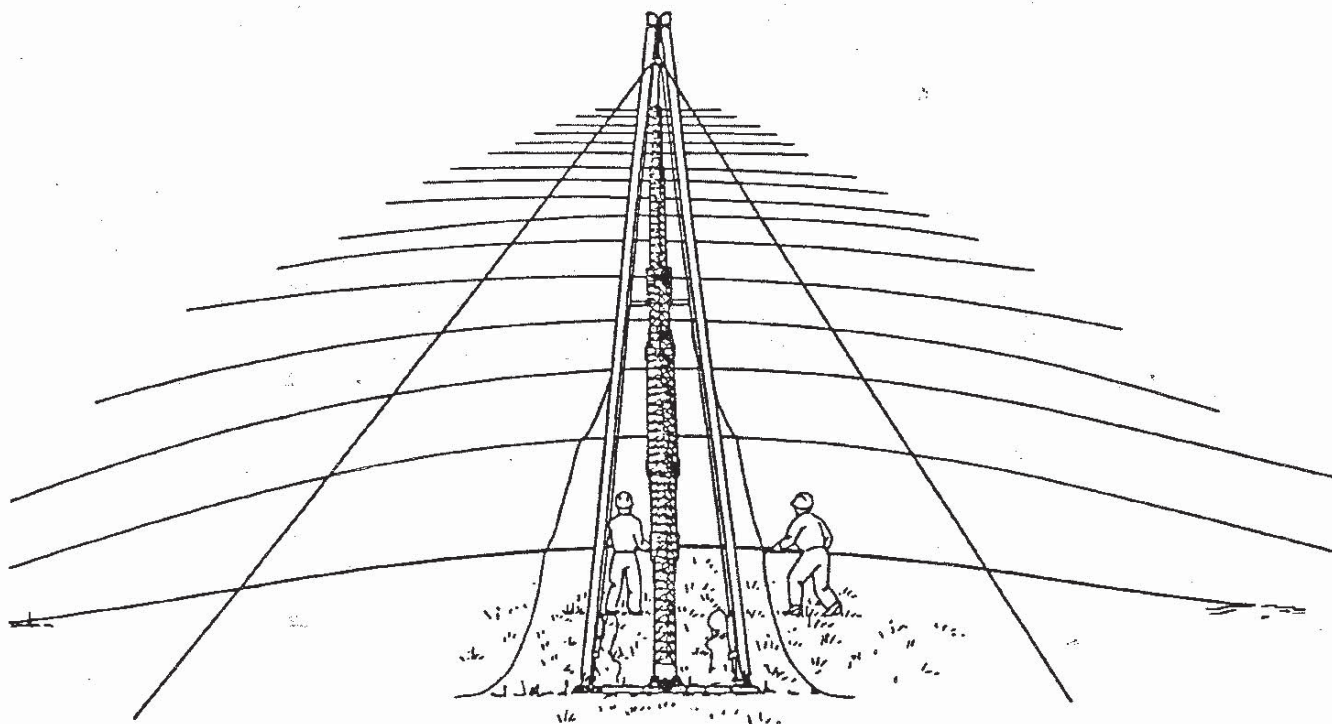

Figure 2-53
- b. One man positions himself at the griphoist, and one man will be stationed at either side guy anchor. Two men will stand near the rear end of the boom, one on each side of the tower (Figure 2-53).